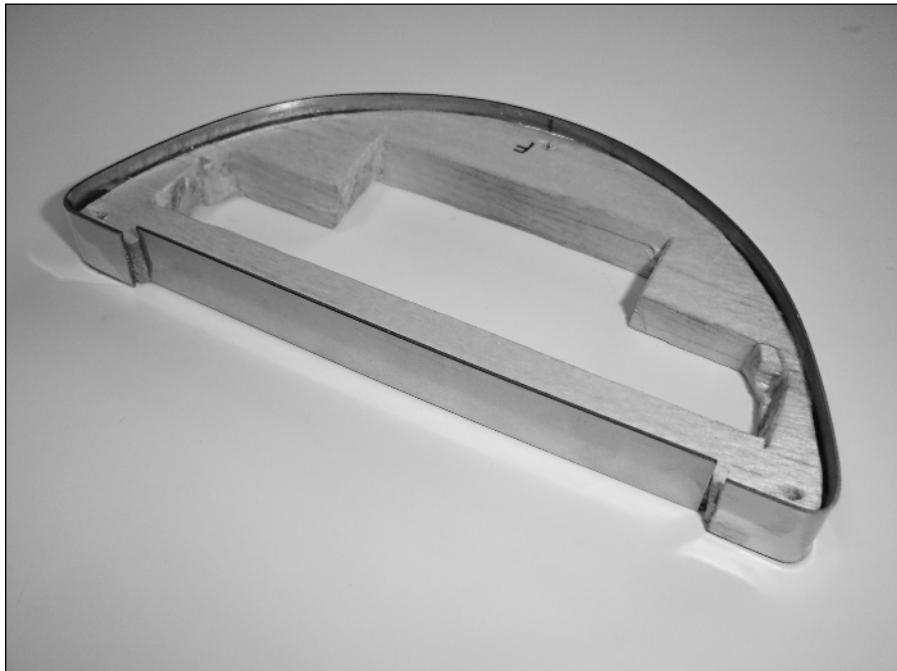

FIGURE 10-13: The notched battery riser, with metal attached.
6. Once you've made the bend, glue down the last portions of the metal. Finally, cut a 3-3/4"-long portion of metal, and glue it inside the notch for consistency. The finished *notched battery compartment* should look as shown in Figure 10-13.